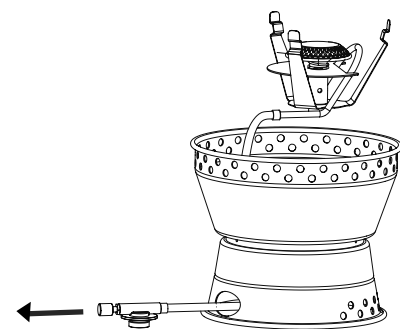

Fig. 3
- Let the Valve (10) go through the Hose Outlet (13) on the Cooker Base (14) (Fig. 3).
- Hold the Stove Litter (7) and let the arms hook onto the inner rim of the Windshield bottom (5). Mount the Pot Holder (4) onto the upper rim of Windshield (5).
- Shut the valve off completely by turning valve Control Knob (11) as far as possible.